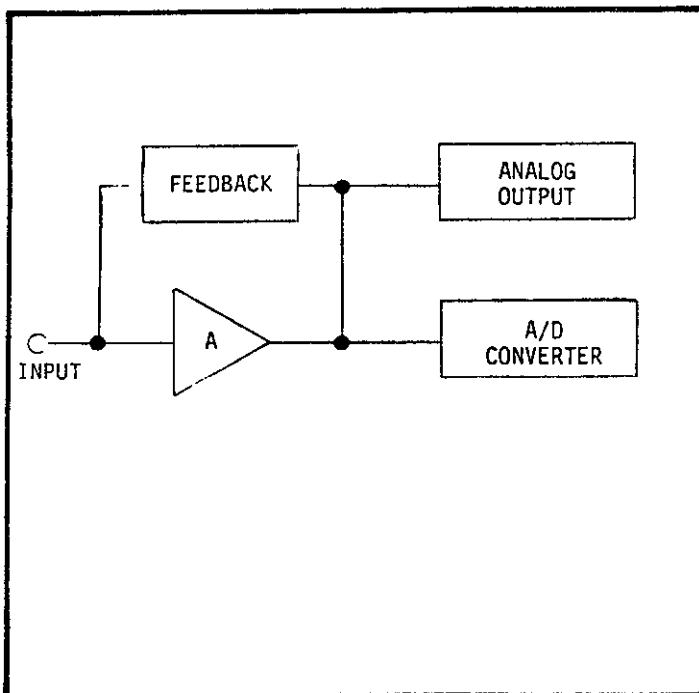

FIGURE 6. Simplified Diagram of Feedback Ammeter.
a. Operation. The picoammeter consists of a sensitive, linear dc amplifier with a 1 volt full scale sensitivity. The amplifier provides an analog output up to 2 volts for a 100% overrange display. The RANGE resistors are connected across the feedback of the amplifier. A simplified diagram of a feedback ammeter is shown in Figure 6.